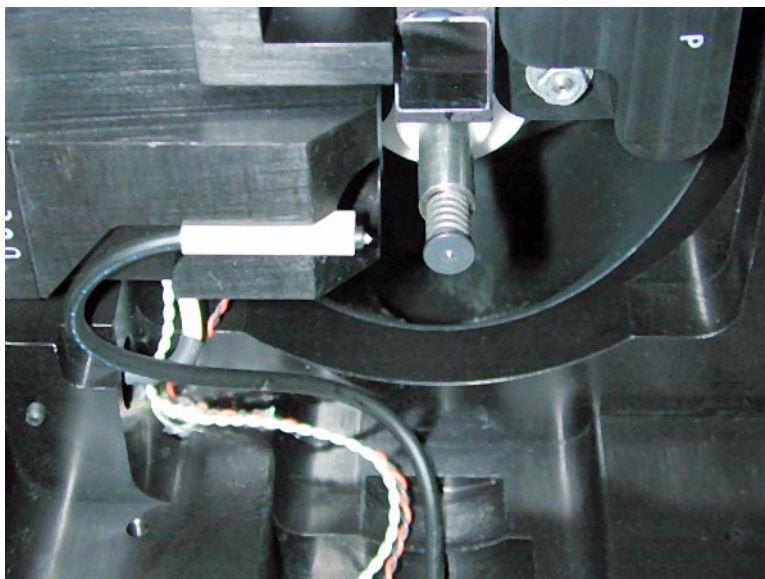

Figure 139 Install the Laser Alignment tool carefully
- 5 Carefully insert the Laser Alignment fixture on the Capillary Extension. Make sure the spring loaded Alignment fixture can move freely on the Capillary Extension by pushing it gently all the way in against the tip of the Capillary Extension. See Figure 139.